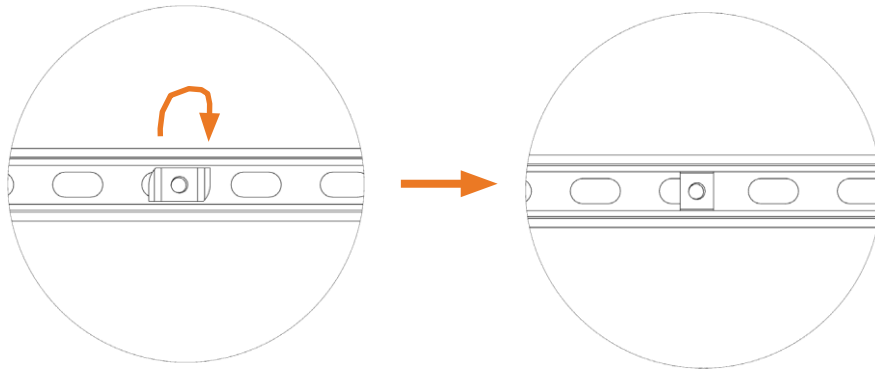

Figure 267: **Strut Channel Nut Properly Seated in the Slotted Strut Channel**
- Make sure the strut channel nut is properly seated in the 1 5/8" slotted (1/2") strut channel before tightening (Figure 267).